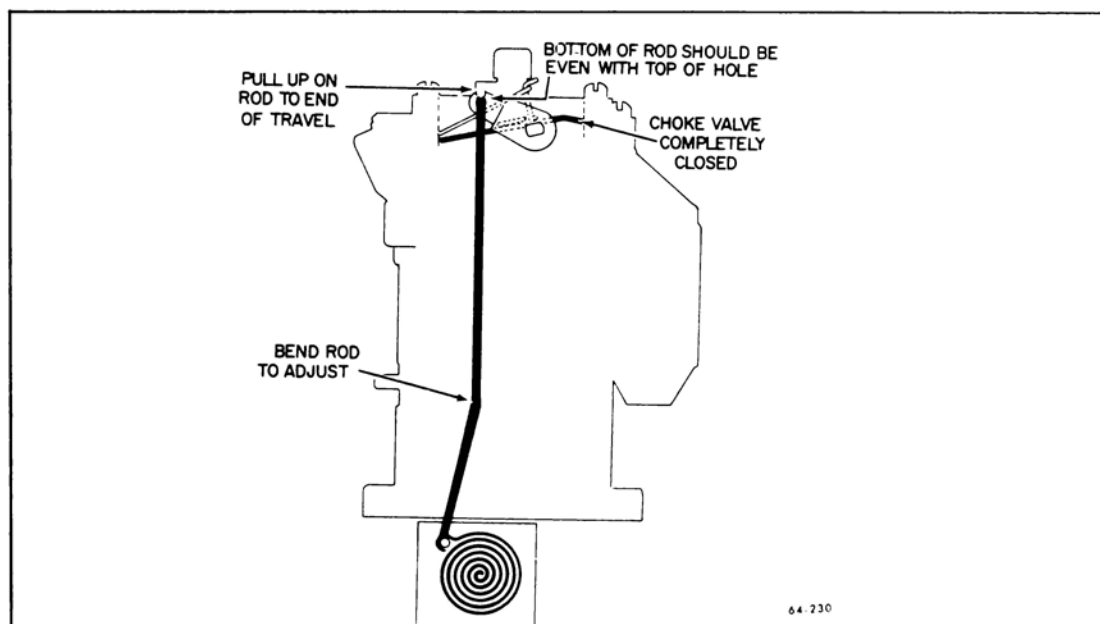

Figure 64-61—Choke Coil Rod Adjustment
5. Bend choke coil rod at point shown to adjust. See Figure 64-61.